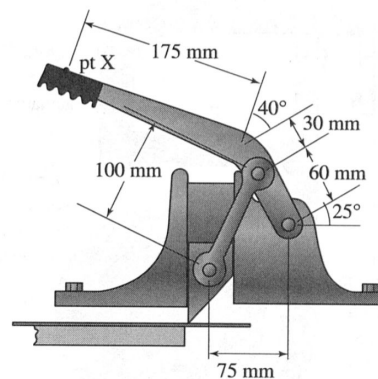
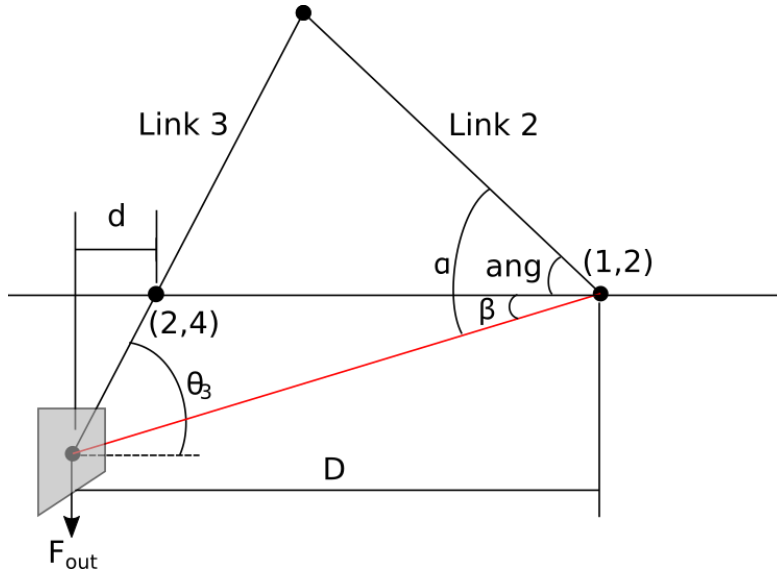

Figure 1: The bench shear to be optimized. Default dimensions are annotated.
Figure 2: Skeleton diagram for the bench shear
A hand operated cutter is used to manually cut thin metal or plastic strip. The cutter shown in Figure 1 is a four bar mechanism that provides enough mechanical advantage (MA) to slice through mild steel up to 0.25 in thick.
A designer has many design choices for implementing this cutter, such as link lengths, pivot locations, the cutter's offset, etc. In the design of the bench shear (Figure 2) we would like to choose link lengths and pivot locations that result in the best MA possible, given space constraints.
From Figure 2, we see that
Next, we determine r_{in} . The handle of the cutter (Figure 1), which is link 2 in Figure 2, is shown below.